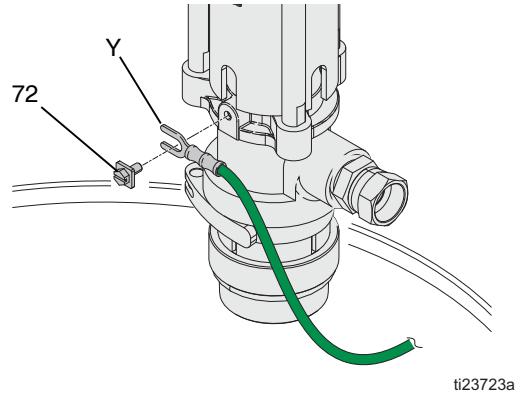

FIG. 9
**Pump:** Connect Ground Wire (Y) to grounding screw (72) and tighten the screw securely. See FIG. 9. Connect the other end of the wire to a true earth ground. Make certain to comply with all National, State, and Local Electrical Codes.